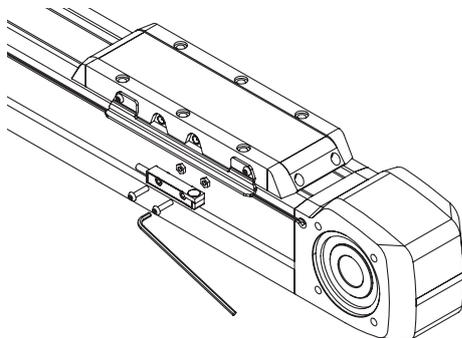
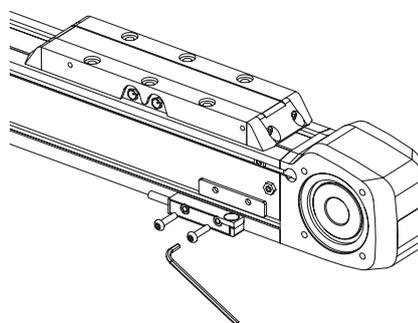

Fig. 6.38 Mounting the limit switch: HM060, HM080, HM120, HT150, HT200, HT250
Fig. 6.39 Mounting the limit switch: HM040, HT100
- ▶ Attach the limit switch with two bolts (see Fig. 6.38). In the case of axis sizes HM040 and HT100, the spacer plate must also be installed between the limit switch and axis (see Fig. 6.39). First leave the two bolts untightened.